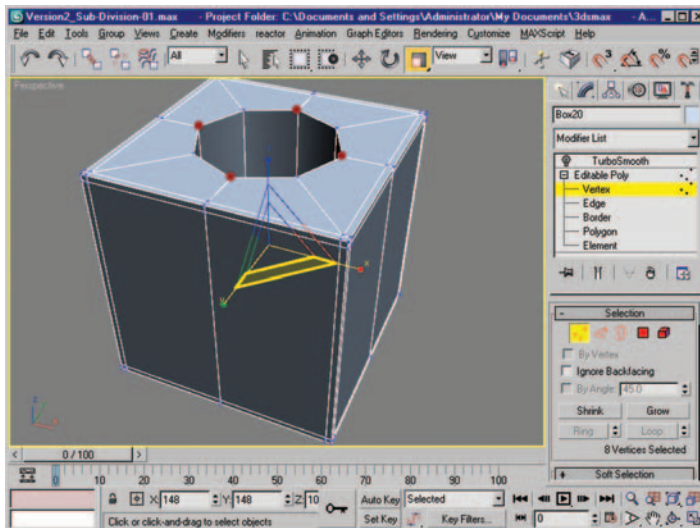

Figure 6.32 Scaled vertices, as well as the highlighted plane handles (yellow) used to scale them in the X- and Y-axes.
9. In the perspective viewport use the plane handles to scale the vertices in the X and Y directions. The result should be an octagonal opening as seen in Figure 6.32.